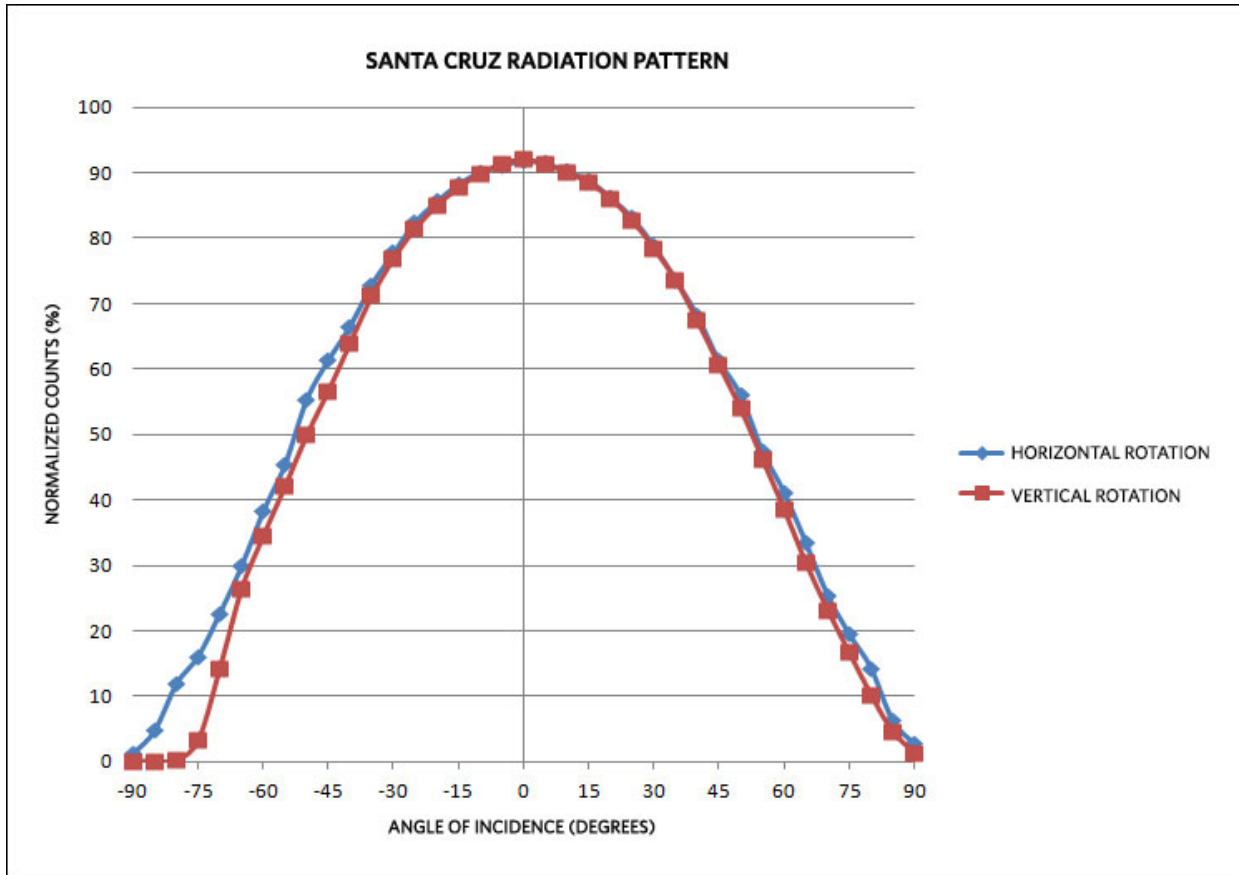
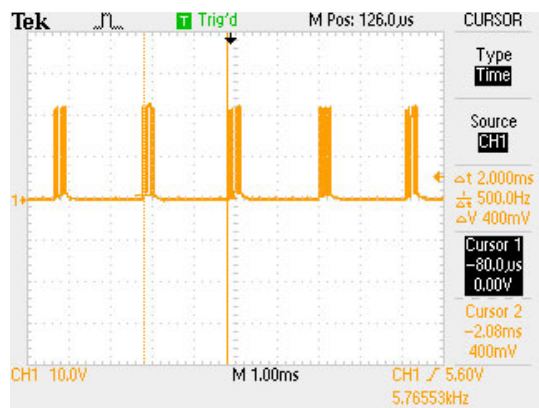
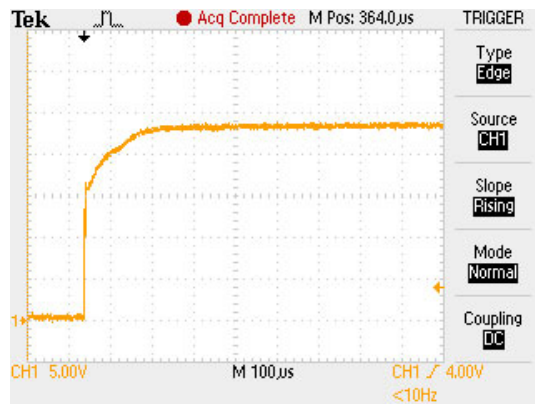

Figure 7. Santa Cruz clear radiation pattern with the conditions of AMBPGA [1:0] = 00, AMBTIM [2:0] = 000.
Figure 8. Cyclic data exchange every 2ms from the Santa Cruz to the IO-Link master.
Figure 9. A 100µs time base oscilloscope shot of the 24V supply being hot-plugged into the Santa Cruz (M12-1).
**Figure 7** shows how well Santa Cruz's readings match with changes in angle of incidence from both horizontal and vertical rotation. These measurements were taken without a sensor enclosure lens and also without a sensor enclosure. **Figure 8** shows the Santa Cruz doing a 2ms cyclic data exchange with the IO-Link master. The Santa Cruz is robust in handling hot plug-in events without failing, essential for every sensor, and shown in **Figures 9–11**.